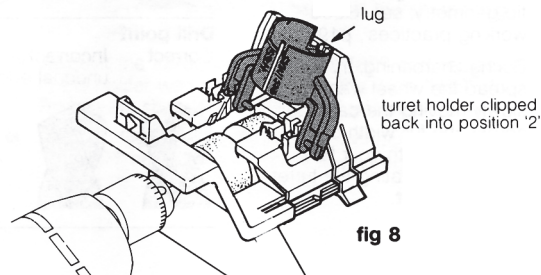

fig 8
- Hold the turret holder with the moulded 'set/MAS' marking **facing** the drill and insert the supporting legs into the 'MAS' groove on the carriage (fig 8).